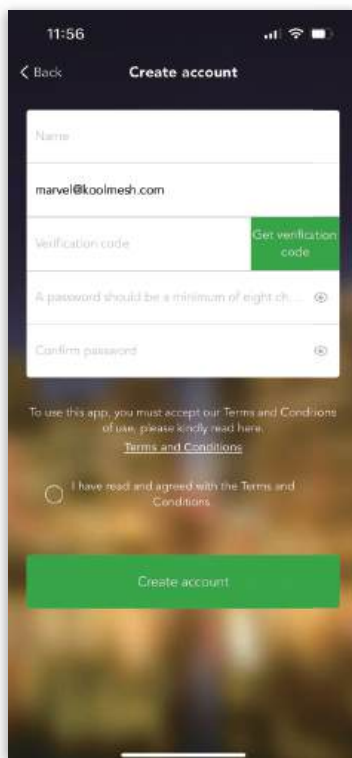
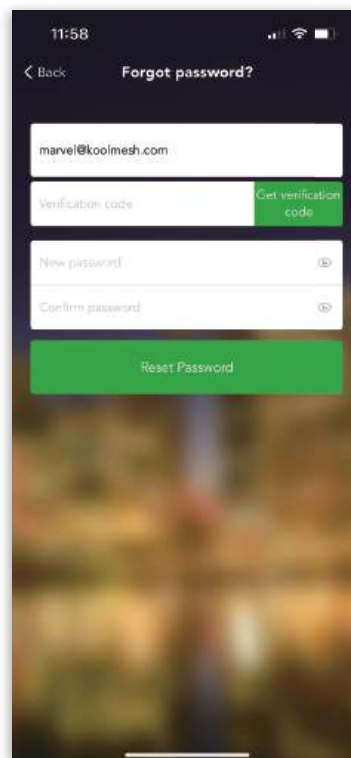

Figure 1.1 Create account
Figure 1.2 Retrieve password
2. First-time users need to create an account, fill in the user's name and email, get verification code, create password with a minimum of eight digits, and accept the terms and conditions as requested (see figure 1.1). If users forget the password, they can click "Forgot password?" to recover it, and the Koolmesh app will send the password to a valid email address. (see figure 1.2)